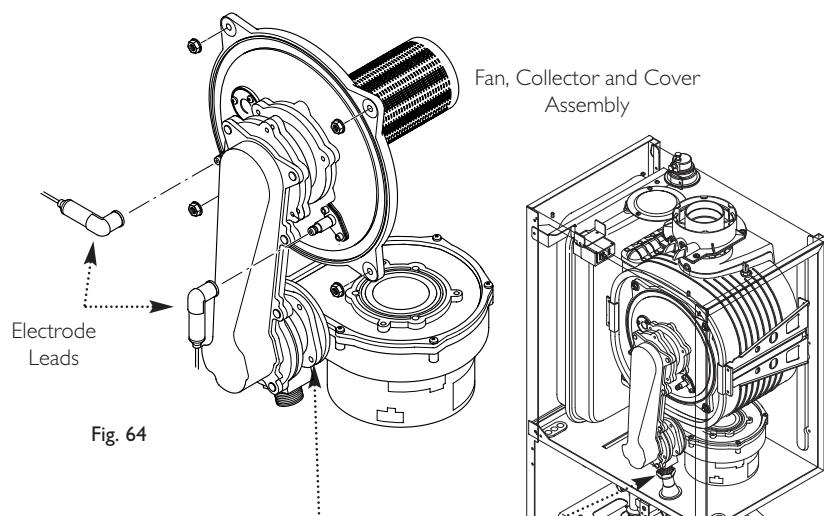

Fig. 64
7. Disconnect the electrode leads, noting their position, and the fan electrical plugs (Fig. 64).